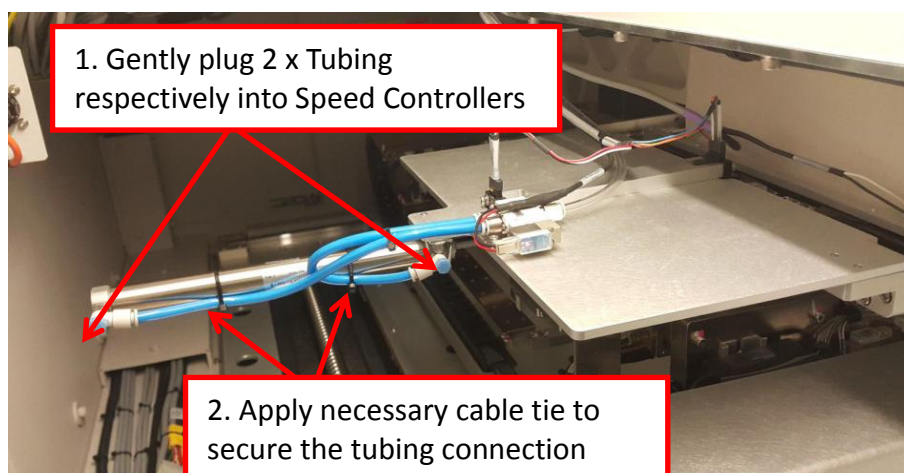

Figure 16 Tubing Connection
6. Gently plug 2 x Tubing respectively into Speed Controllers by refer to previous marking as below Figure 16